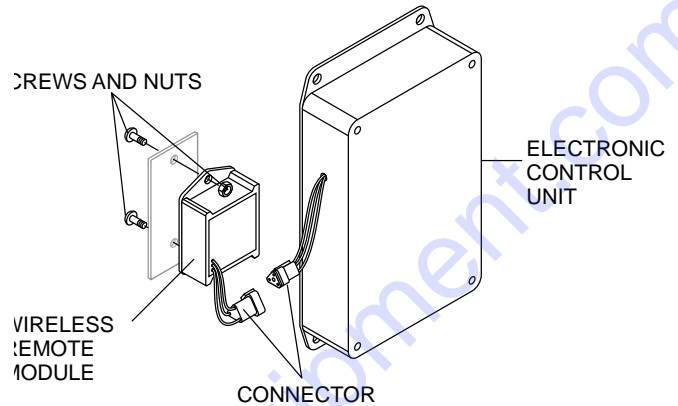

Figure 32. Installing Remote Control Module
3. Install the wireless remote module (Figure 32) with the 2 screws and nuts provided inside the control panel. Connect the 3-wire connector from the wireless remote module to the electronic control unit.